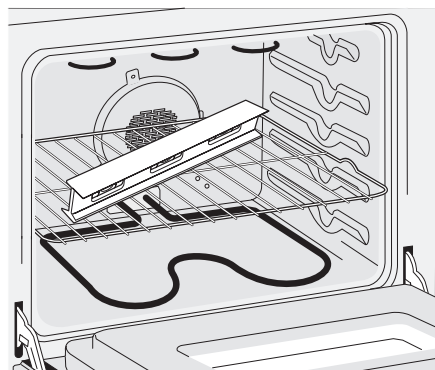

Figure 7
2. Place a level on the rack (see figure 7). Take 2 readings with the level placed diagonally in one direction and then the other. Level the range, if necessary, by adjusting the 4 leg levelers with a wrench.